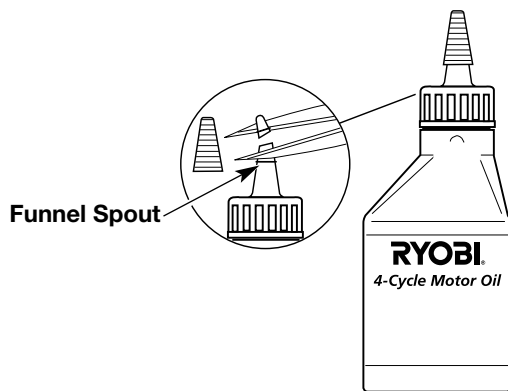

Fig. 4
Your unit is supplied with one 3.4 fluid oz. (100 ml.) bottle of SAE 30 SF, SG, SH oil (Fig. 4).
1. Unscrew the top of the bottle of oil and remove the paper seal covering the opening. Replace top. Cut the tip off the funnel spout (Fig. 4).